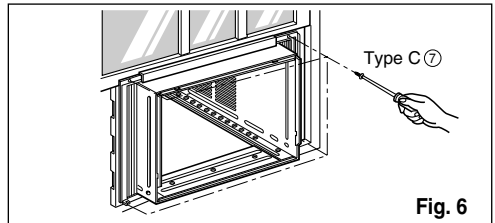

Fig. 6
7. Attach the cabinet to the window stool by driving the screws ⑥ (Type B: Length sixteen millimeters and below.) through the front angle into window stool.
9. Attach each Frame curtain the window sash using screws ⑦(Type C).(See Fig. 6)